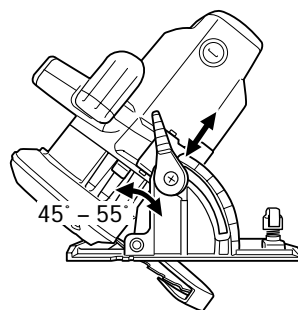

Fig. 12
If you use inclination angle of over 45°, as shown in Fig. 12 move the lever (A) to inside, the saw blade may be inclined to a maximum angle of 55° in relation to the base.